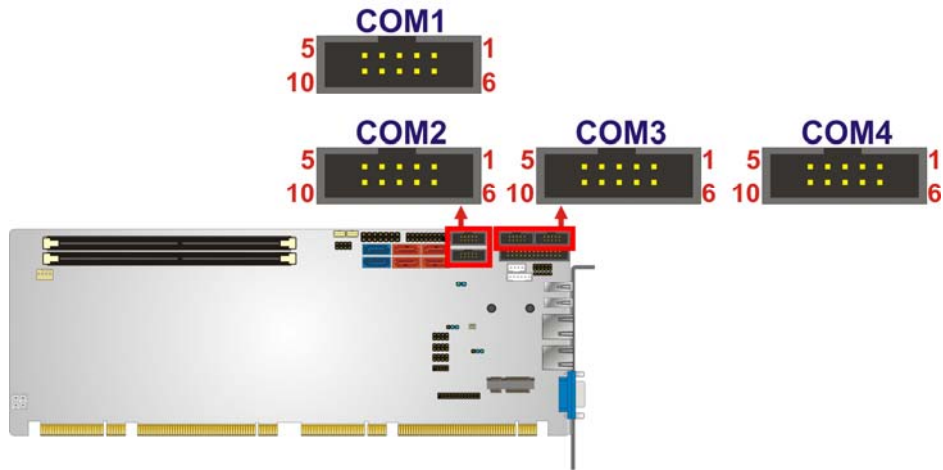

Figure 3-17: Serial Port Connector Location
- CN Location:** See **Figure 3-17**